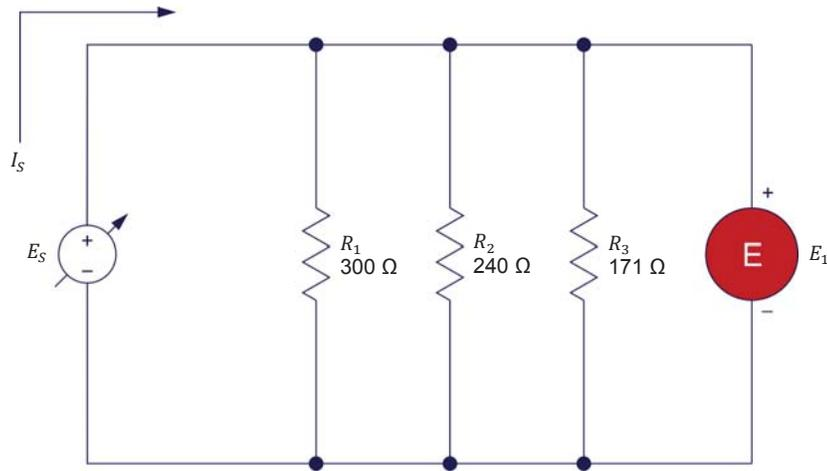

Figure 20. Determining the equivalent resistance of resistors connected in parallel.
8. Set up the parallel circuit shown in Figure 20. To obtain the resistor arrangement of Figure 20, make the necessary connection(s) and switch settings on the Resistive Load module.
9. Calculate the equivalent resistance ( $R_{Eq.}$ ) of the parallel resistors  $R_1$ ,  $R_2$ , and  $R_3$  in Figure 20.
3. Refer to Figure 20. If resistors  $R_1$ ,  $R_2$ , and  $R_3$  each have a value of  $100\ \Omega$ , what is the equivalent resistance  $R_{Eq}$ ?